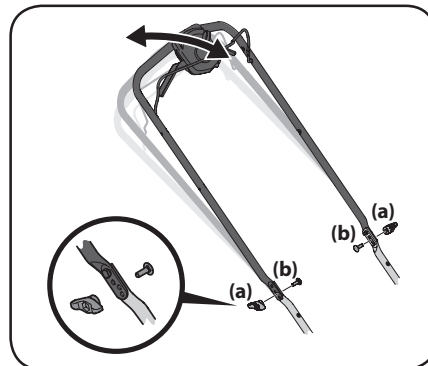

Figure 2-16
1. Remove wing nuts (a) and carriage bolts (b) from handle. See Figure 2-16.
2. Position the handle in one of the three positions that is most comfortable. See Figure 2-16 inset.